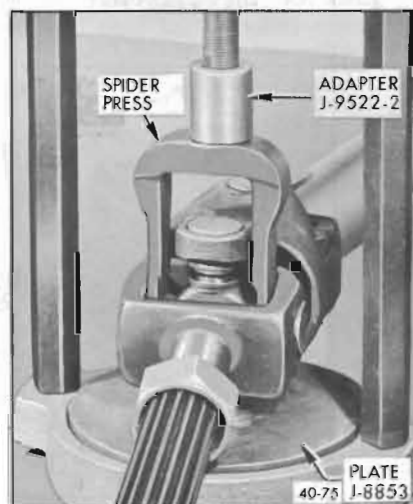

Figure 40-75—Pressing Out Bearing
2. Set up Power Ram and Hydraulic Pump in preparation for removing the propeller shaft bearings. With this use Axle Bearing and Retainer Replacer J-8853 as a base plate. Attach Adapter J-9522-2 onto the ram screw. See Figure 40-75.
3. Position propeller shaft constant velocity joint into the fixture as set up in Step 2 with the link yoke bearing over the hole in J-8853 Replacer Plate. Install Spider Press J-9522-3 on spider. See Figure 40-75. The notches in the spider press are offset so that this press can be positioned on the spider without interference from the link yoke casting. With tools in position, actuate the pump and force the spider against the